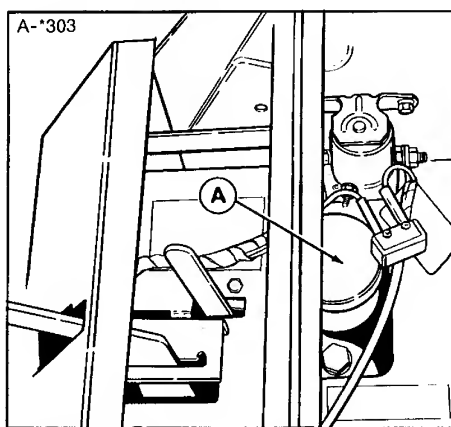

Figure 20. Hydrostatic Reservoir
3. The fluid level is visible in the reservoir (figure 20) without removing cap. The level should be at COLD level mark. If not, go to step 4.